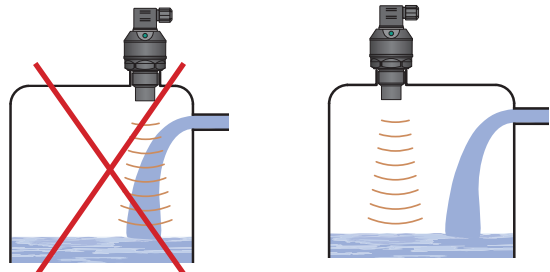

Fig. 4: Installation of the device out of reach of filling circulation
- Do not install the device in or above the **filling** point (Fig. 4). The measurement could be affected by the inflowing medium.